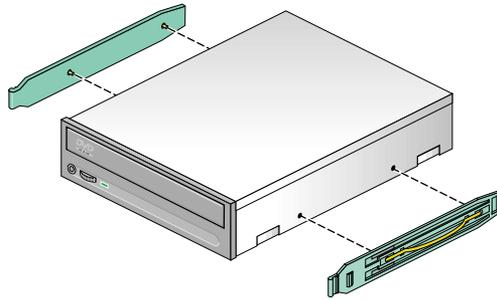

Figure 3-13 Installing the Drive Rails
2. Attach the 5.25-in. drive rails to the sides of the drive by inserting the pins into the openings in the sides of the drive (see Figure 3-13).